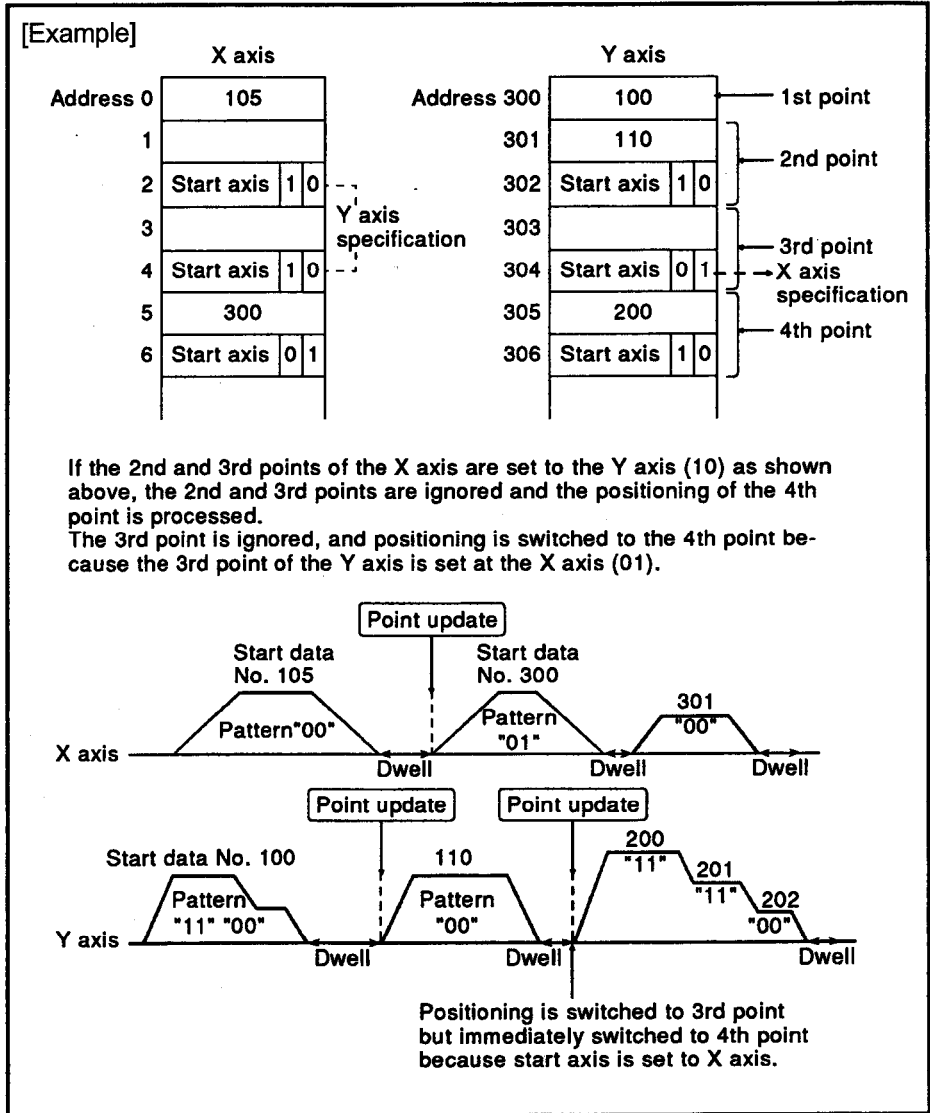

Fig. 3.33 Start Data Example 2
- 2) If the start axis in the X-axis start data number area is set at the Y axis (10), the point data is ignored (positioning is not executed) and the next point is processed. (Refer to Fig. 3.33.)